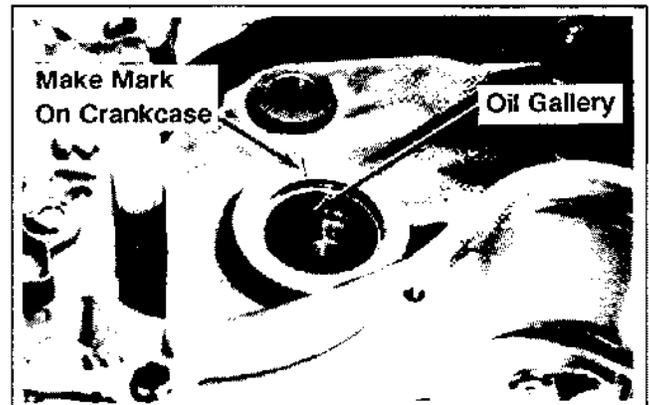

Figure 11-1. Marking Position Of Oil Gallery.
1. Mark the position of one of the crankcase bearing oil galleries on the crankcase. See Figure 11-1.